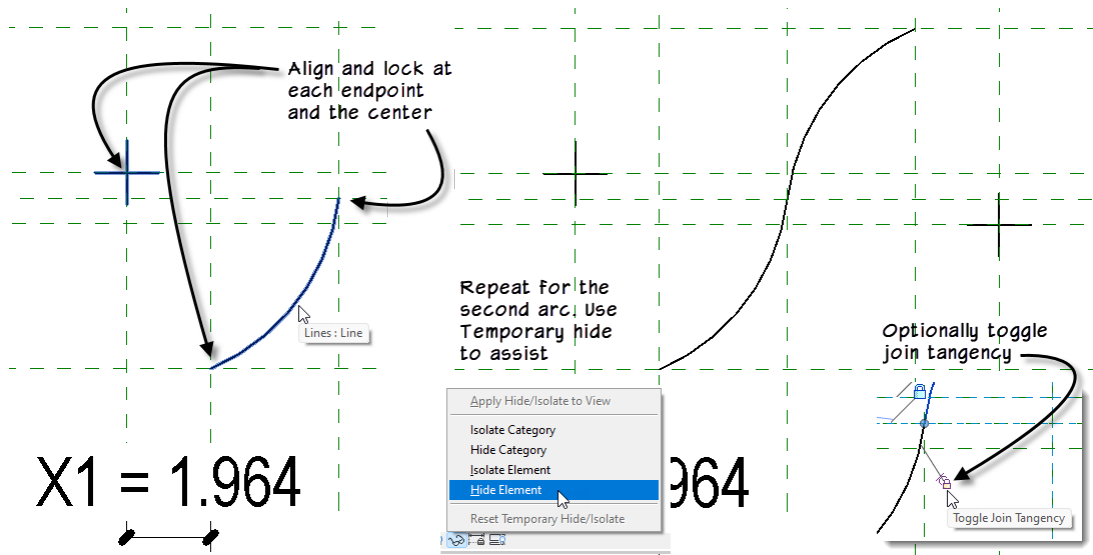

Figure 37—Draw the second arc and constrain it
- ⇒ Align and lock the center point and then each arc endpoint to the reference planes in both directions (6 alignments total) (see the left side of Figure 37).
- ⇒ Reset the Temporary Hide/Isolate (see the right side of Figure 37).